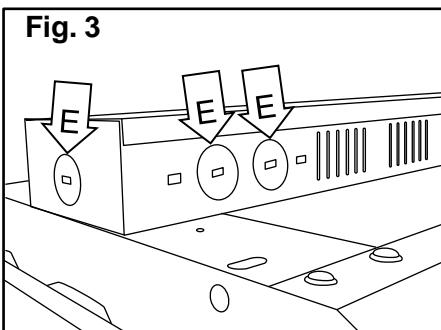

Fig. 3
4. If the fixture will be connected to a dimmer, punch out one of the **knockouts** (E) located around the back portion of the fixture and pull the **dimming wires** out through that **knockout** (E). [Fig. 3]